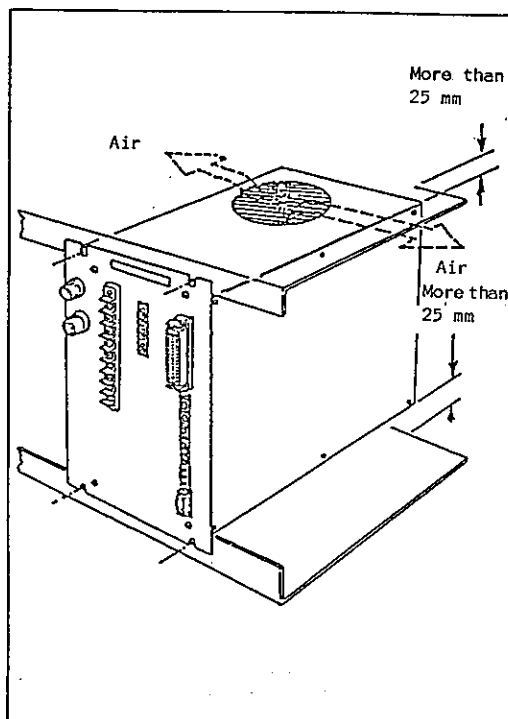

Figure 3.11
- As a self-cooling driver box with a build-in fan is used, a ventilation space of more than 25 mm must be left below and above the box. (See Figure 3.11.)